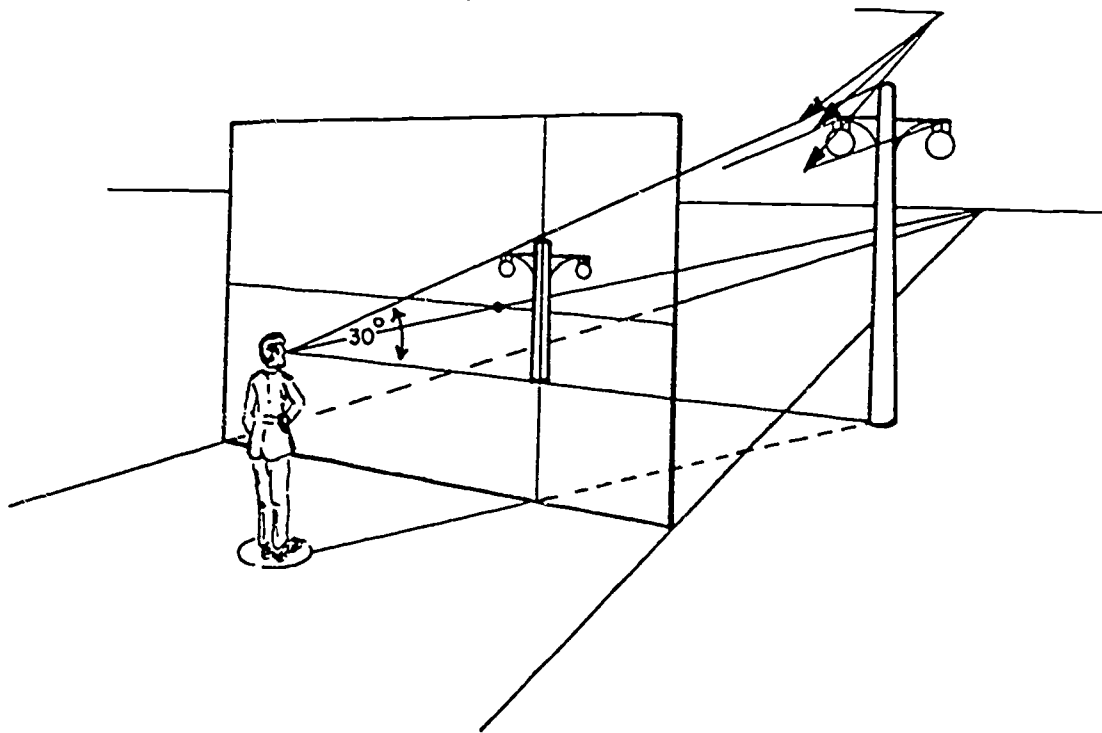

Figure 4-101. Perspective nomenclature (objective 057, exercise 1).
**Exercises (056):**
1. Using figure 4-101, which shows various unnamed elements of perspective, write in the appropriate term for each (from the following list).
- b. Vanishing point (VP).
- c. Ground line (GL).
- d. Picture plane (PP).
- e. Station point (SP).
- g. Centerline of vision (CV).
- j. Measuring line (ML).